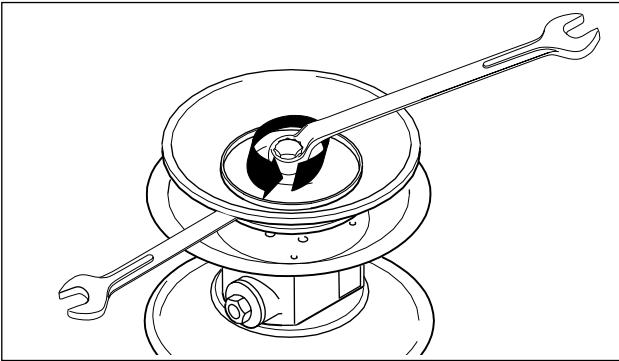
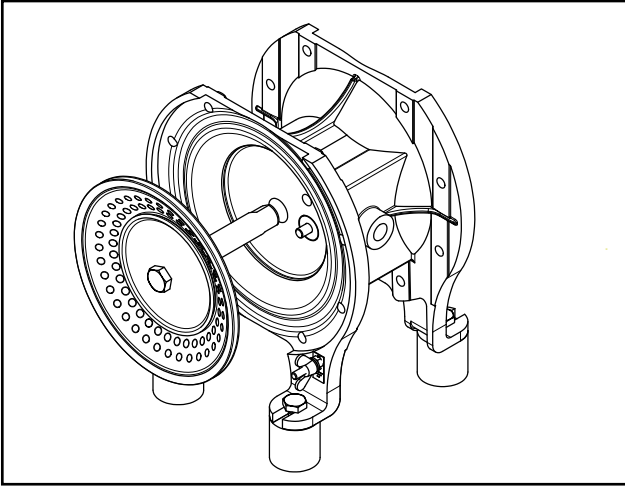

Fig. 10: Loosen the diaphragm plate. (Not used for nopped E4® diaphragms.)
Fig. 21: Pulling out the diaphragm with piston rod
- Loosen the outer diaphragm plate and take it off with the diaphragm (Fig. 10).
- Loosen the outer diaphragm plate and remove with the diaphragm (Fig. 10 + Fig. 21).
- Loosen diaphragm, see Fig. 10 and 21
also see 5.3.2.3. Deviating from fig. 21, loosen the diaphragm plates first of all. Remove the piston rod separately from the control block.